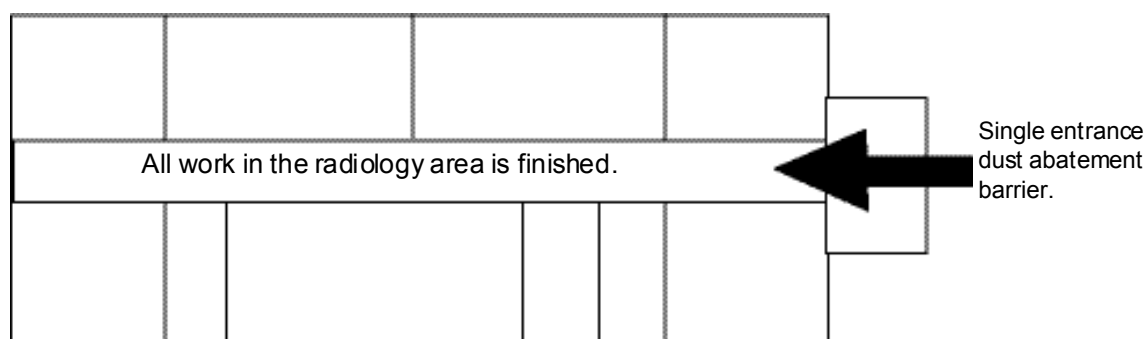

Figure 1-1 Full construction site with completed radiology area
- Scan suite access limited to a single entrance (see Figure 1-1).